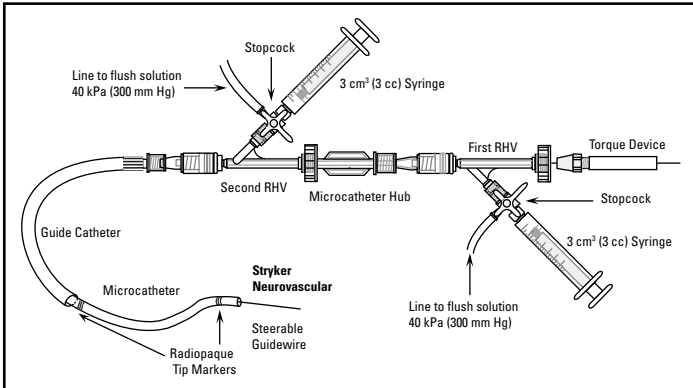

Figure 1. Example of Continuous Flush Setup
- Slip torque device over proximal end of guidewire per Figure 1, and secure.
The recommended continuous flush set up is illustrated in Figure 1. The RHVs provide a fluid tight seal and are attached to the guide catheter and microcatheter. The stopcocks attach to the RHV sidearm, which become infusion ports for appropriate flush or contrast media injection.
2. Open RHV thumb-screw and carefully introduce microcatheter and guidewire assembly through the guide catheter RHV (Second RHV in Figure 1). Tighten the O-ring valve around the microcatheter just enough to prevent back flow, but not so tightly as to inhibit microcatheter advancement.